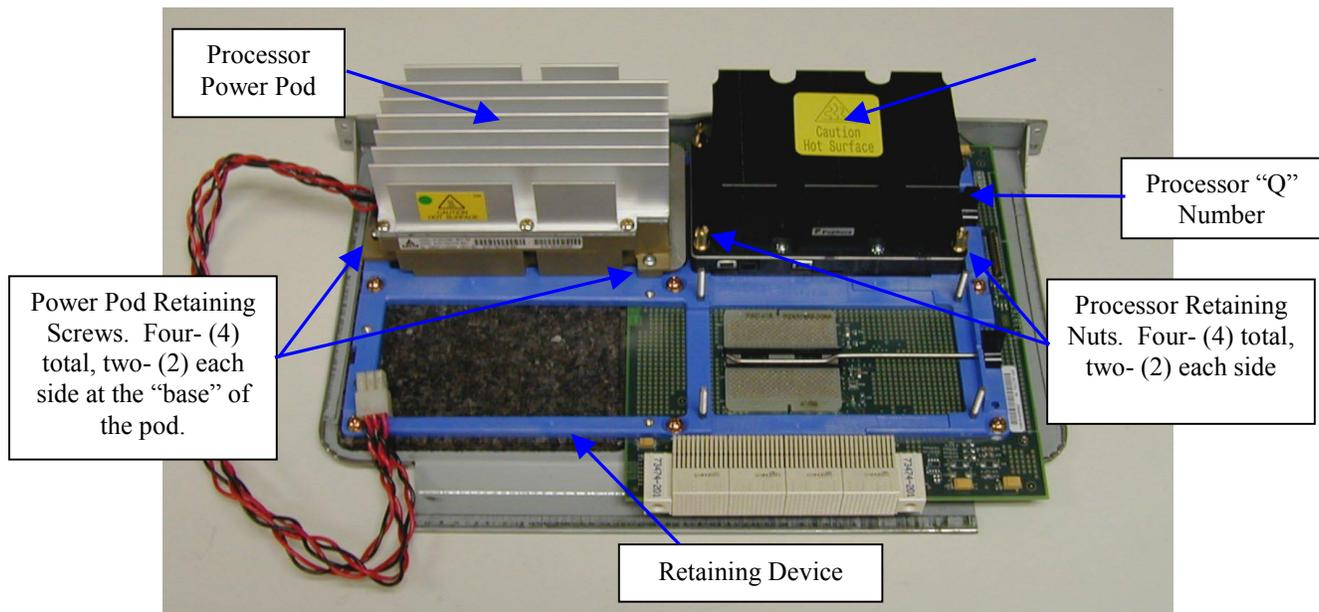

Figure 7. Processor Assembly
2. Remove the four- (4) Phillips-head screws securing the processor Power Pod to the retention device. Refer to Figure 7.